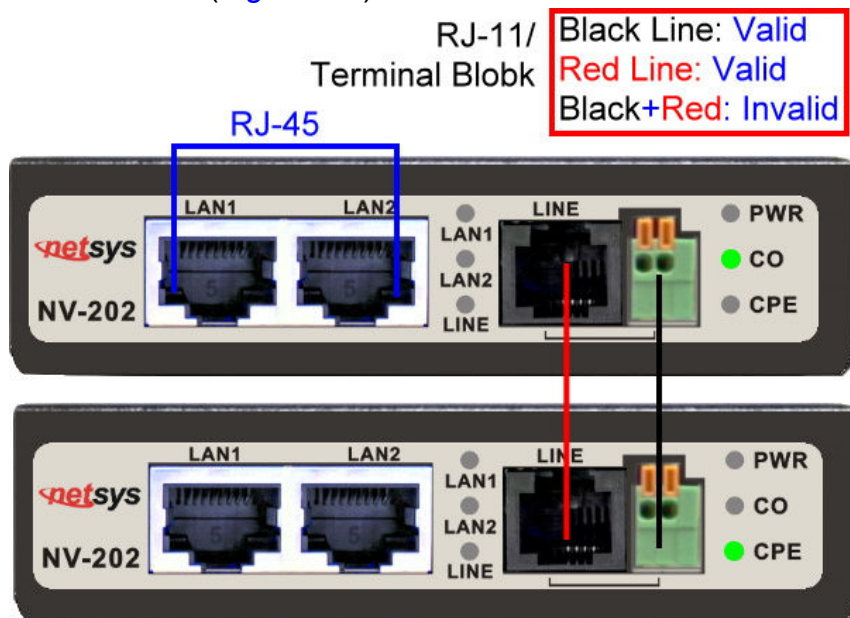
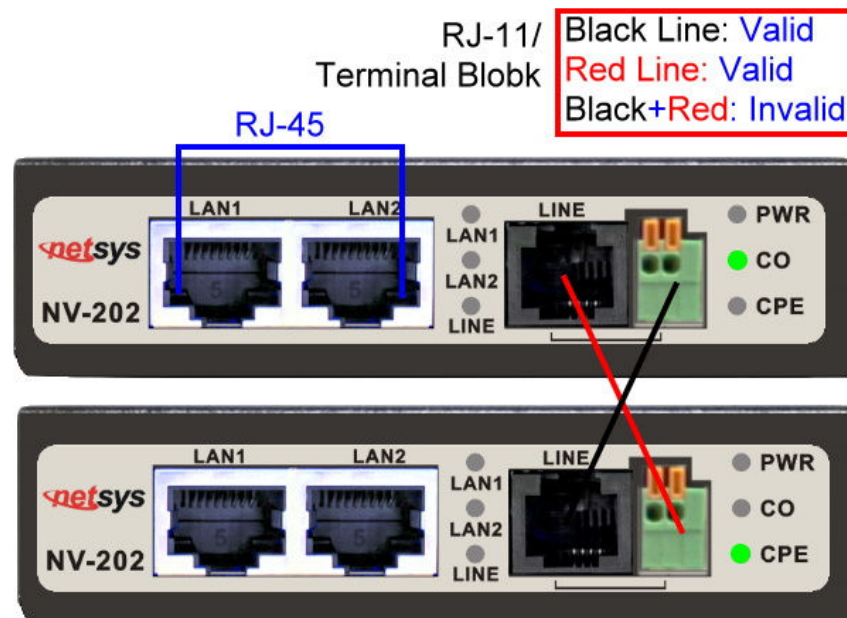

Figure 2.4 NV-202 line ports straight connection
Figure 2.5 NV-202 line ports crossover connection
- ◆ The line port has 2 connectors: RJ-45 and terminal block. It is used to connect with NV-202(CO) using a single pair phone cable to NV-202(CPE) bridge side (point to point solution). Take note that NV-202 line port RJ-11 and terminal block cannot be used at the same time. Either RJ-11 port is connected or terminal block is connected using straight connection (Figure 2.4) or cross-over connection (Figure 2.5)